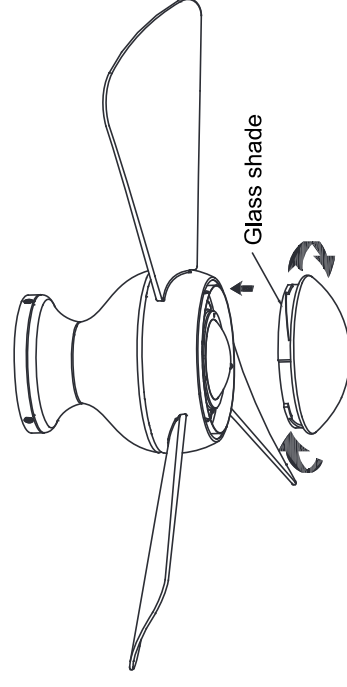

Fig. 16b
Step 8. Secure the glass shade to switch housing by twisting in a clockwise direction. Do not over-tighten (**Fig. 16b**).